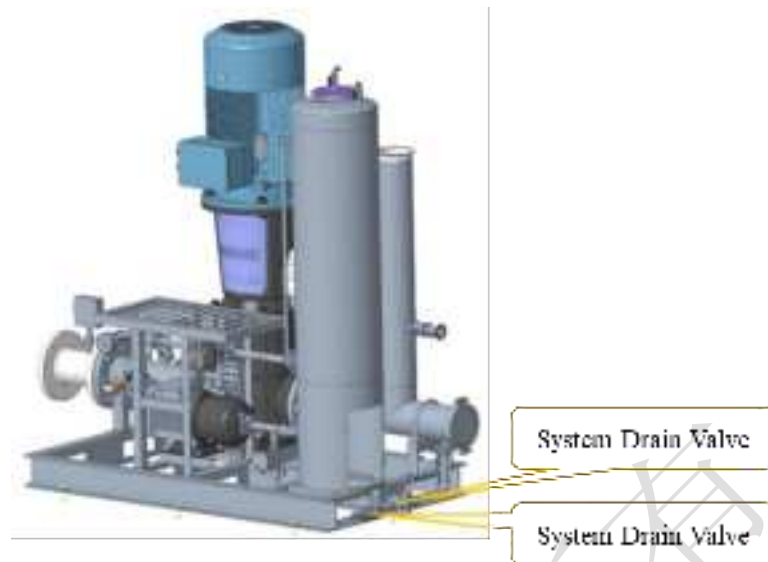

Figure 9.3 Pump Station Drain Ball Valve Location
- a) Locate the drain ball valve (see Figure 9.3).
- c) The system can be drained by leading the hose to the outside of the unit and opening the two drain ball valves (Figure 9.3).